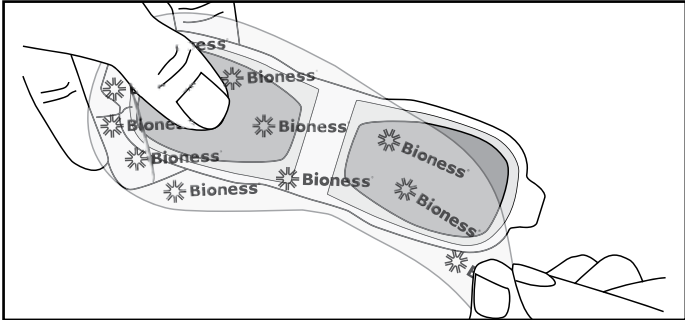

Figure 6-3: Remove the Gel Electrode liner.
1. Remove the liner and store it in the Electrode Carrying Case. See Figure 6-3. Do not bend the liner. Keep the liner clean and protected so it can be reused when the Gel Electrode is removed from the skin.